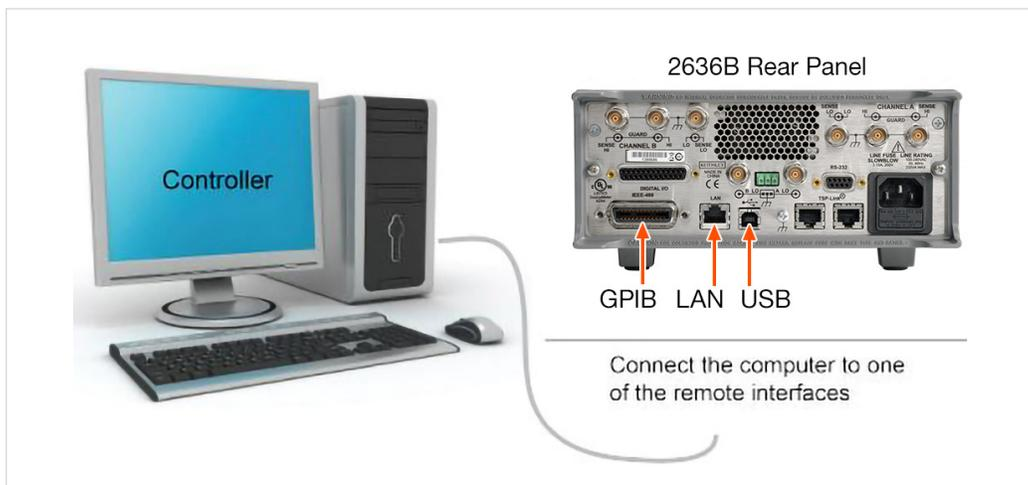

Figure 4: 2636B remote interface connections.
**Figure 4** shows the rear-panel connection locations for the remote communication interfaces.